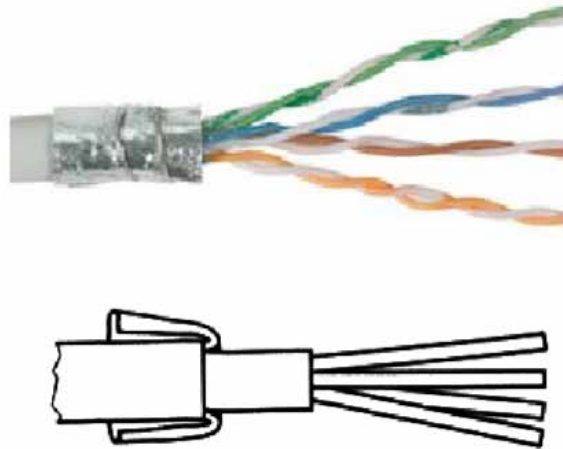

Figure 4.11. CPE Cable Sheathing
3. Form the braiding into two pigtails. The stripped cable should appear as shown in Figure 4.11, "CPE Cable Sheathing".